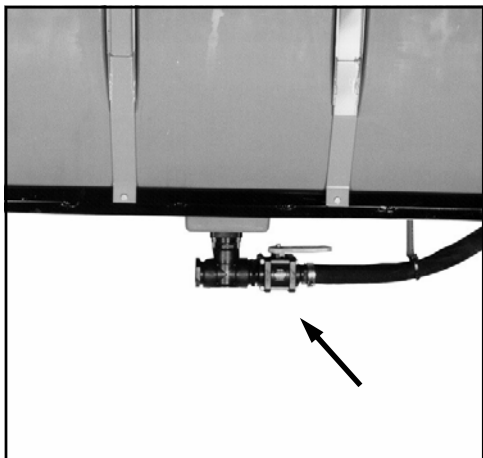

FIG 5.35
To fill the solution tanks, make sure the tank shutoff valve (fig. 5.35) under the tank and the electric valve (fig. 5.36, item1), you want to fill is open (you may fill both at the same time). Open the valve on the quick fill attachment (fig. 5.36, item2).